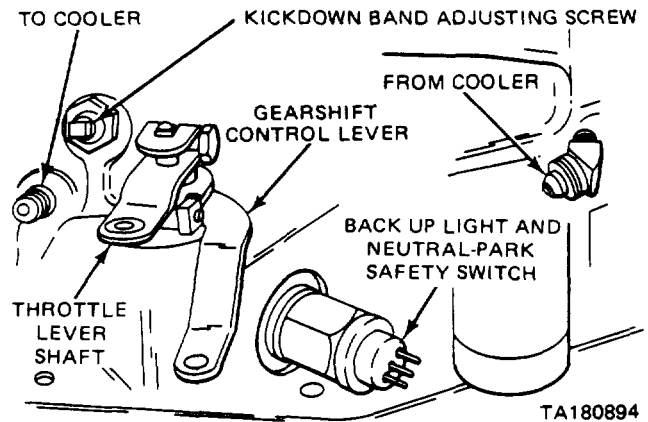

Figure 4-24. External Controls and Adjustment.
c. Move the selector control lever on the transmission all the way to the rear (in the "P" detent) (figure 4-24).
(1) The selector lever must move easily and the different selector positions must be clearly felt,
(2) The detent position must be close enough to gate stops in "N" and "D" to assure that the hand lever will not remain out of the detent position when placed against the gate and then released.
(3) Key start must only occur with the selector lever in the "P" or "N" positions. Tighten the adjustment swivel lock bolt to 125 in-lbs.
a Kickdown Band. The kickdown band adjusting screw is located on the left side of the transmission case near the throttle lever shaft (figure 4-24).